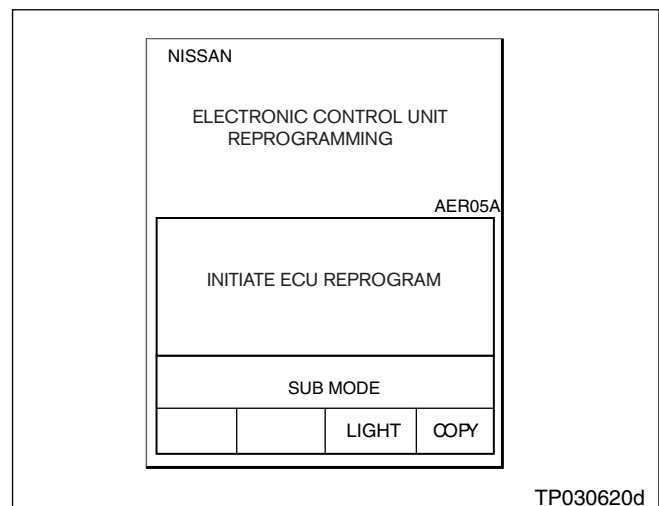

Figure 4
2. Press **SUB MODE** (see Figure 4) then: